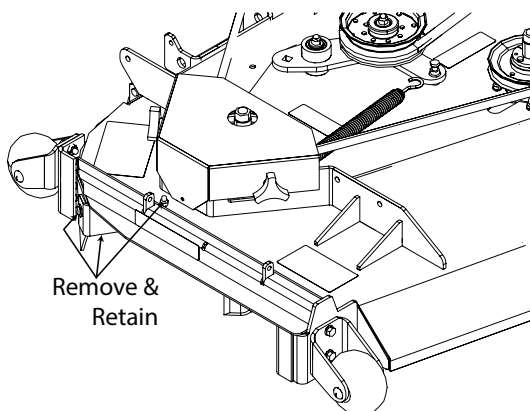

Figure 3-49. Removing the Turbo Baffle
5. Remove the turbo baffle from the cutter deck. See Figure 3-49.